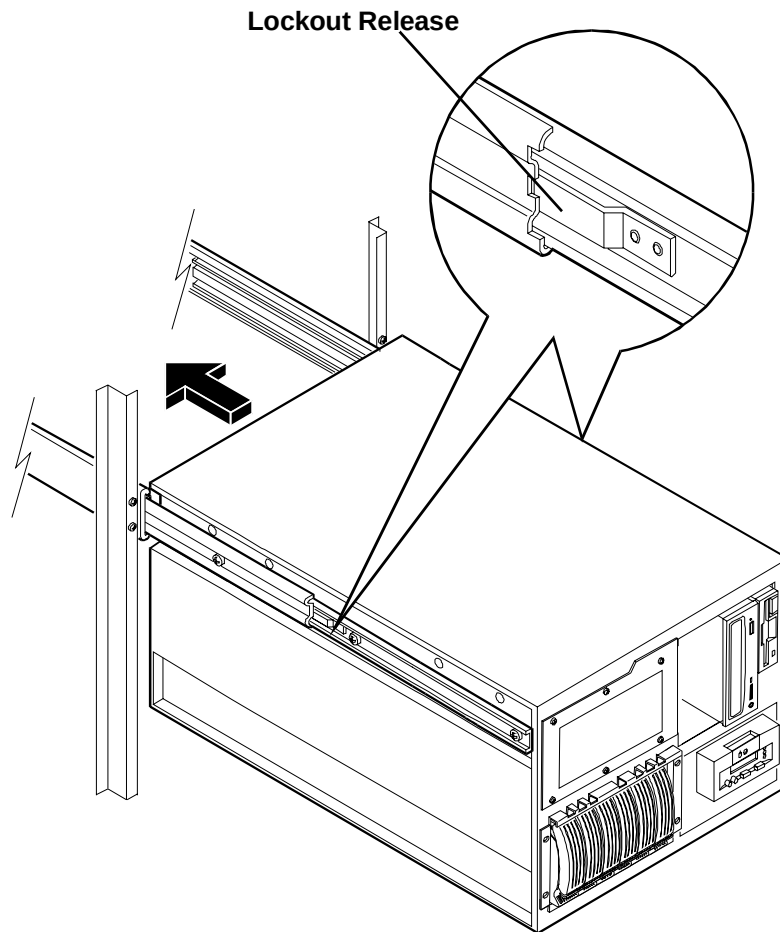

Figure 3-8. Location of Lockout Releases
1. On both slide members, simultaneously depress the lockout releases and push the NetServer completely into the rack enclosure (see Figure 3-8).